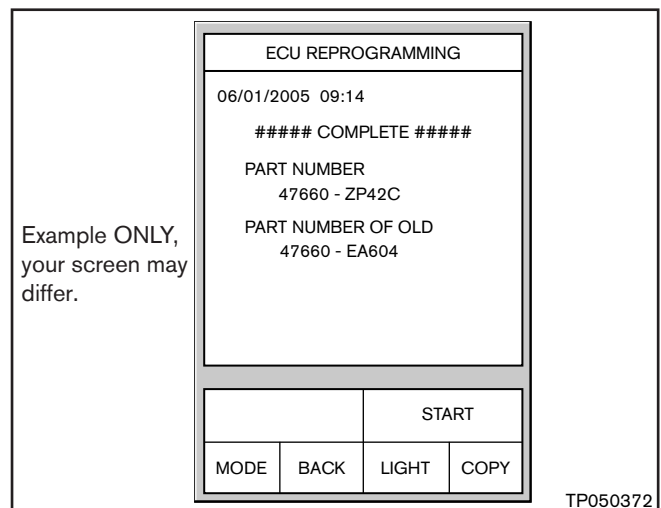

Figure 21
b. CONSULT-II will automatically print out a report (see Figure 21).